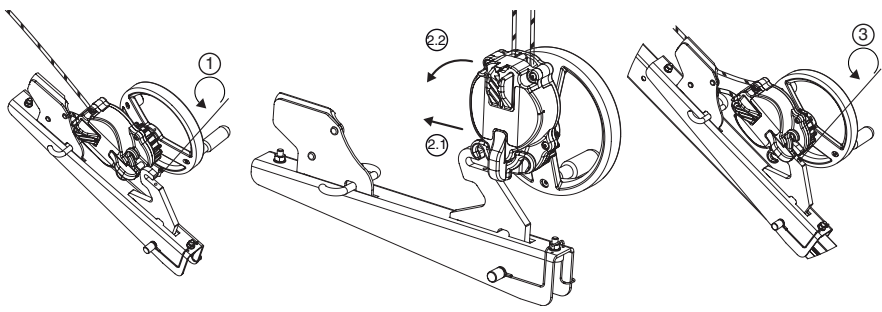

Fig. 8
### 6.3.4. Derope™ descender UP R (Figs. 8, 9 and 10)
The Derope™ UP R descender must be secured to the leg of the Tractel® trapcode as shown in Fig. 8. Any other mounting position on any other point of the Tractel® trapcode is strictly prohibited. To use the Derope™ UP R descender on one of the 3 legs of the trapcode tripod, the tripod must be equipped with an idler pulley at the upper part, or with two pulleys if another device is implemented on the same trapcode tripod (bloctor™ automatic return fall-arrest device or caRoI™ winch).
1. Unscrew the screw securing the hook by which the bracket is fastened to the Derope™ UP R descender (Fig. 8, 1).
2. Install the Derope™ UP R descender on the fastening hook (Fig. 8, 2.1 – 2.2).
3. Screw in the locking screw to prevent the unit from separating from its bracket (Fig. 8, 3) and check that it is properly positioned and tightened.